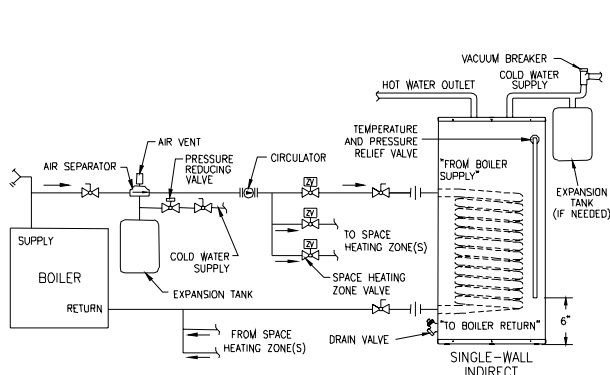

Figure 1 - Water Boiler Piping with Zone Valves
1. For a space heating system that utilizes ZONE VALVES, refer to Figure 1. The Single-wall Indirect connection labeled “FROM BOILER SUPPLY” should be piped to the boiler supply piping. Mount the circulator making sure the flow arrow points toward the water heater. The use of Shut-off valves and unions are recommended for future service convenience. The use of an air separator and vent is recommended to eliminate air in the system. Pipe and fittings between the boiler and Single-wall Indirect must be 3/4” diameter or larger.